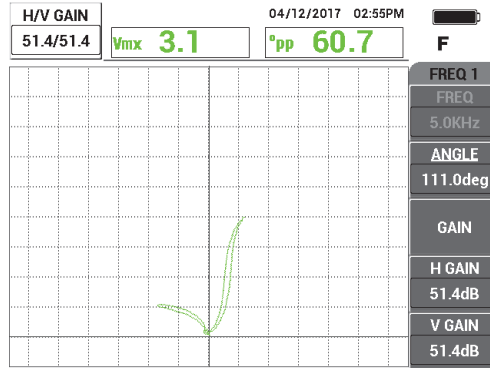

Figure 5-186 Adjusting the gain
5. Press the GAIN key (**dB**), and then increase the gain until the hole signal reaches approximately 4 vertical divisions in height. Press the FREEZE key () to enable signal acquisition (see Figure 5-186 on page 260).